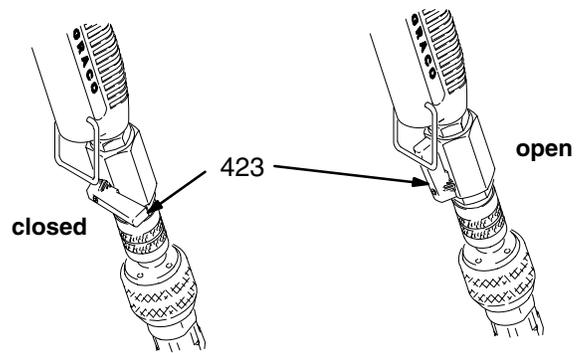
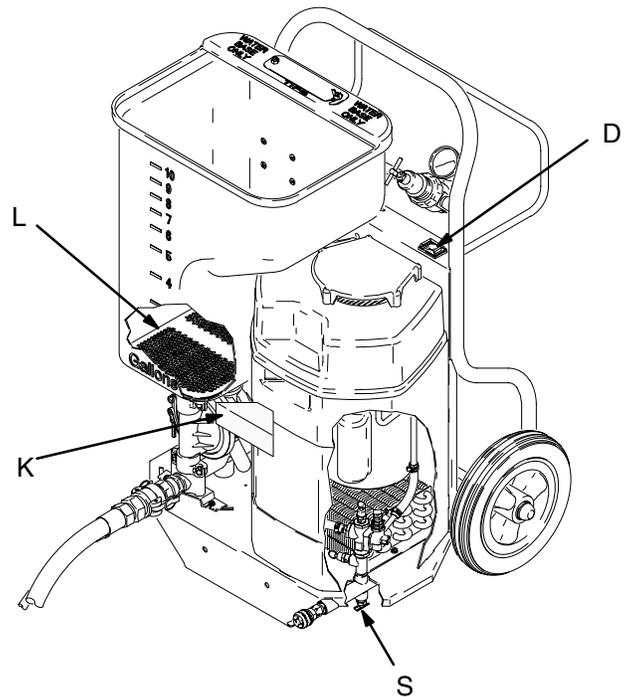

Fig. 16
Fig. 17
**See Fig. 16 and Fig. 17**
1. Be sure the compressor pressure is relieved by opening gun air valve (423).
2. Close the gun air valve, and turn the ON/OFF switch (D) ON.
3. Trigger the gun into a pail to lower the fluid to the hopper strainer (L) level.
4. Half fill the hopper (J) with clean water. Clean the inside of the hopper with a brush, if needed.
9. Turn the ON/OFF switch (D) OFF. Open the gun air valve (423) to relieve compressor pressure.